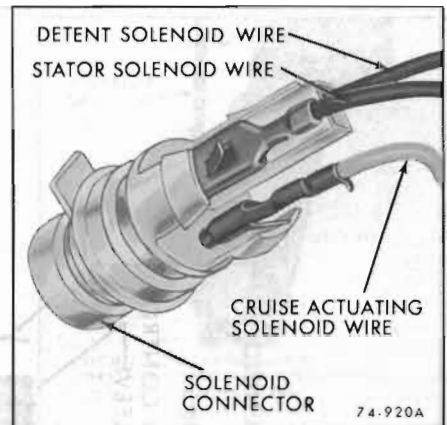

Figure 75-920—Removing Solenoid Wires from Case Connector
1. Remove stator, detent and actuating solenoid wires from case connector. See Figure 75-920.